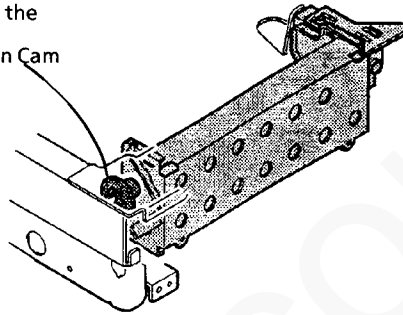

Figure 2. Adjusting the Mirror Position Cam
4. Adjust the Mirror Position Cam (Figure 2).